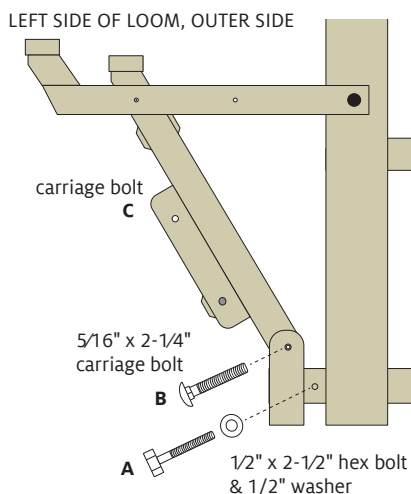

FIGURE 4: INSTALL HARDWARE
9. Place a 1/2" washer on the 1/2" x 2-1/2" hex bolt, and insert the bolt through hole [A] in Figure 4 in the left lower side brace from the outside to the inside of the loom. From inside the loom, install another 1/2" washer on the hex bolt.
10. Remove the carriage bolt at hole [B] in the left lower leg (Figure 4). Insert a